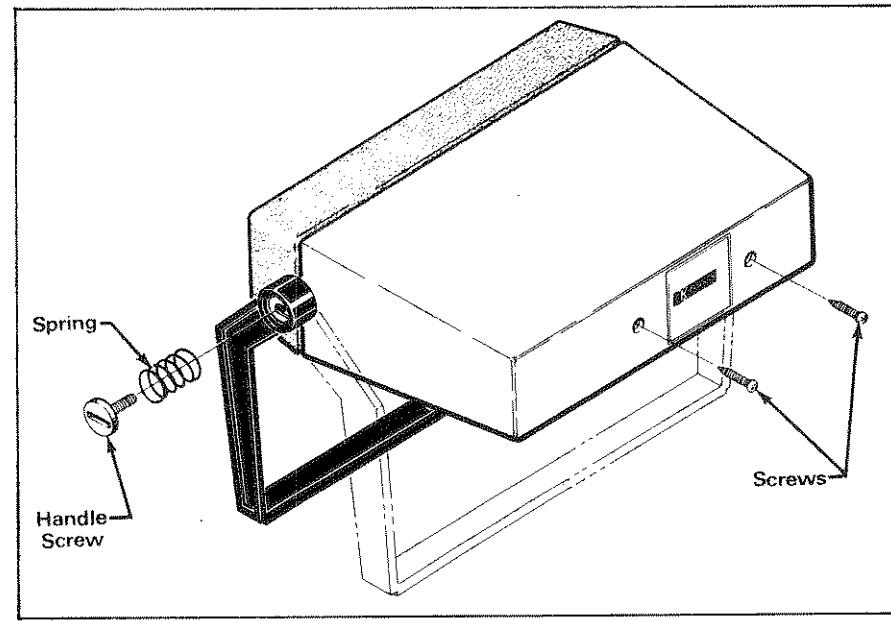

Fig. 24. Removal of rear case.
- 5. Use a coin (a quarter works best) to remove the two screws that hold the handle to the case. Use caution to avoid losing the springs beneath the screws that hold the handle on the case. Remove the handle. The handle may be reversed if the user desires. Refer to Fig. 24.